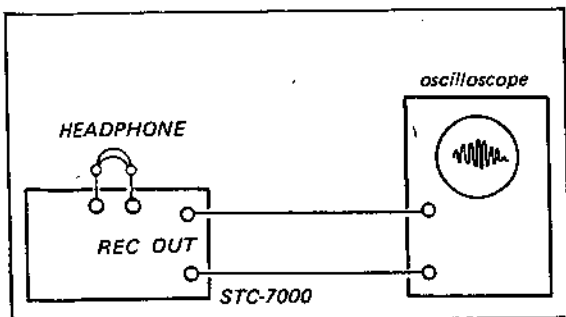

Fig. 3-4. Discriminator alignment test setup
2. Tune the receiver to a vacant spot in the band (no signal input). Listen to the headphone and watch the oscilloscope to confirm that the tuner is not receiving any off-the-air signal. See Fig. 3-4.